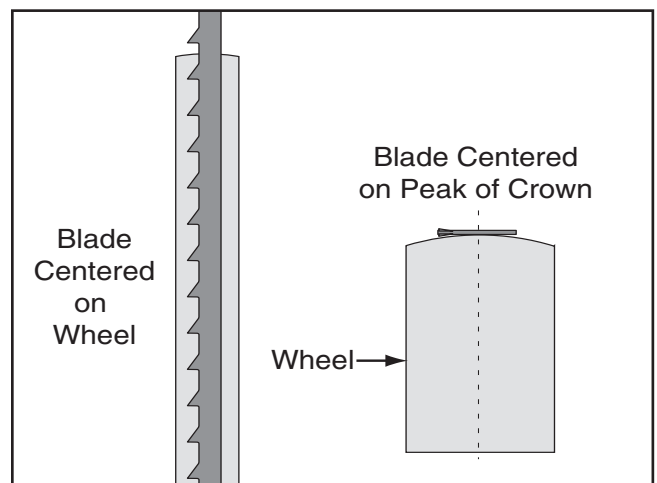

Figure 18. Center tracking profiles.
4. Spin the upper wheel by hand at least three times and watch how the blade rides on the crown of the wheel. Refer to **Figure 18** for an illustration of this concept.